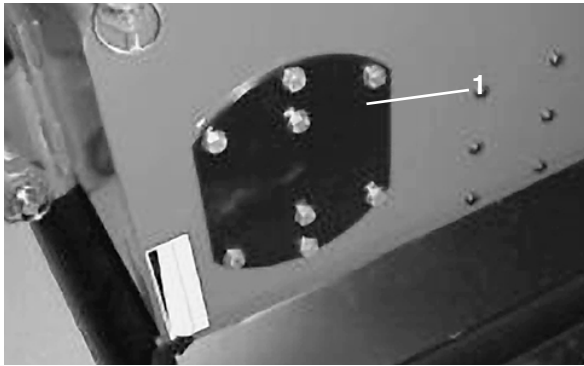

Figure 34
5. To ensure components are re-installed correctly, mark the location of the end cover on the aerator frame (Fig. 34).